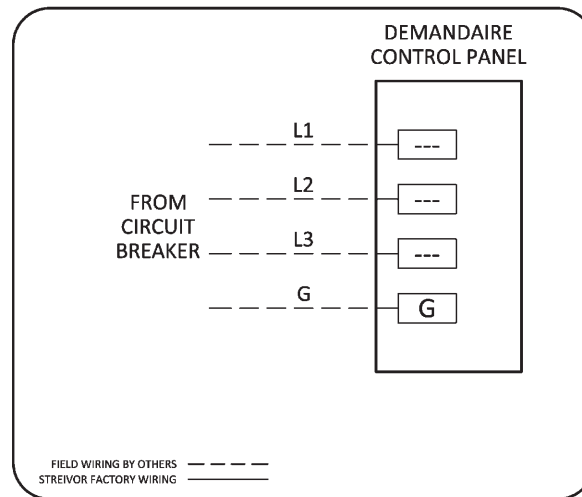

**FIGURE 2: Fan Control Wiring**
- Connect the terminal blocks in the control panel designated for the 4-20mA or 0-10VDC fan control signals to the appropriate external destination (*Figure 2*) (i.e. VFDs, BMS, EC Motors, VAV, etc.)